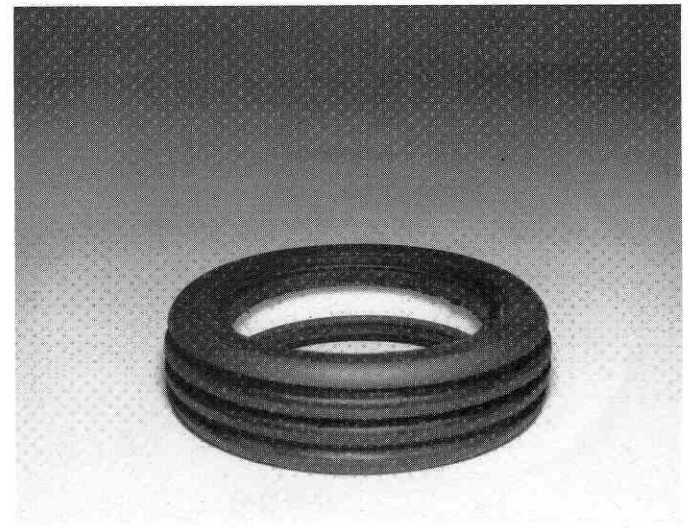

Fig. 148
□ **Fig. 148** This photo shows the #6872 front tire with the ring already installed. Make sure the ring is perfectly centered.